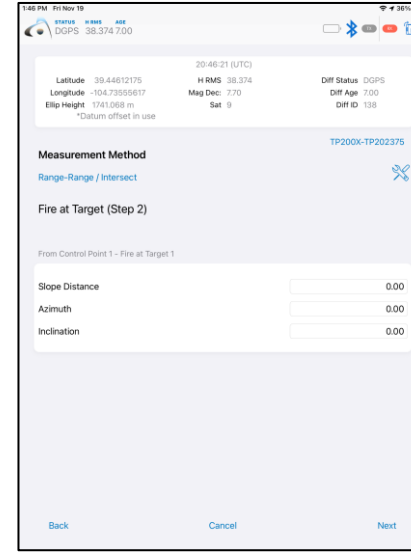

Figure 11A
- 11A. **Step #2:** Aim at the target and measure HD with the TruPulse 200X (Figure 11A)